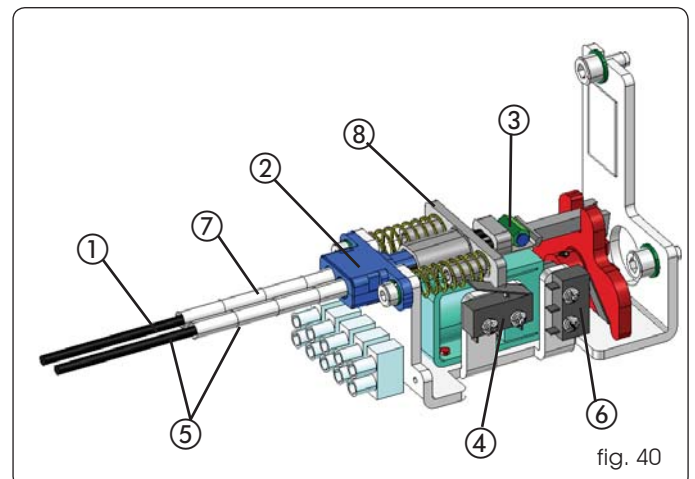

fig. 40
- Take the cable with sheath to detail ② in figure 40, and cut excess sheath.
- Route the cable (fig.40 ref.①) inside detail ②, taking the sheath to its contact point (fig. 40 ref. ⑦).
- Insert the cable in the clamp (Fig.40 ref.③).
- Pull detail ⑧ to its contact point (compressing the springs) and fasten the screw of the clamp ③, thus securing the steel cable.
- Release the knob, turning it through 90°, and check if the release functions. Also check if the door opening microswitch (fig.40 ref.④) is activated by pulling the knob.
If it is necessary to install the external release device, use the key-operated push-buttons. Fit the release cable on the motor locking device, using the appropriate seat (fig. 40 ref. ⑤).
Install the supervision microswitch as shown in Fig. 40 ref. ⑥. For electrical connection and programming, refer to the control board/accessories section of these instructions.